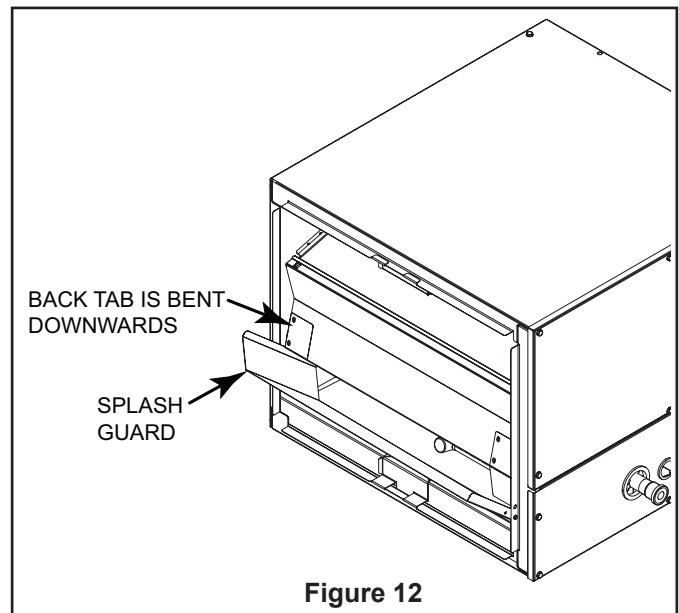

Figure 12
- c. Bend rear tab on top baffle inward towards the coil to avoid interference with splash guard. See Figure 12.